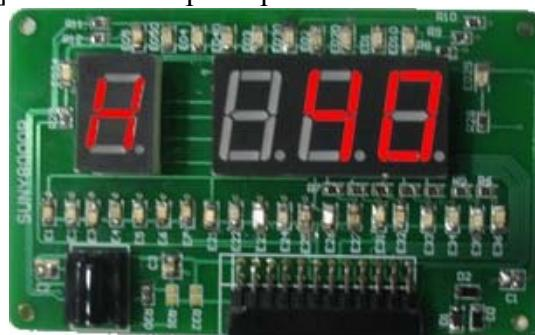

Fig. 6
- Press [MIN] button, panel shows as Fig.6.